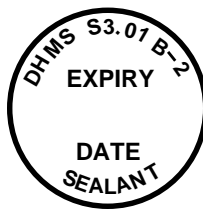

FIGURE 3 - SEALANT IDENTIFICATION/CONTROL DISC
- 4.1.4 Sealant identification and control discs, pre-printed according to Figure 3.
Step 1. Stamp the sealant expiry date (mixing date + 14 days) onto a number of sealant identification/control discs equal to the estimated number of sealant cartridges to be filled that day (see Figure 3).